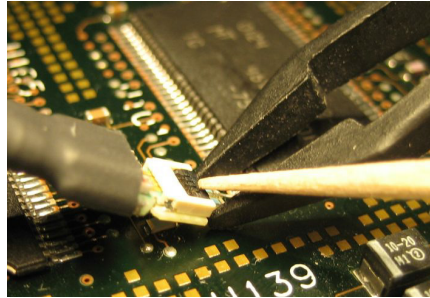

Figure 70 Use a Non-conductive Tool to Close the Latch
- 6 To make a measurement, connect a ZIF probe head to the ZIF tip. Open the tip's latch, insert the probe head into the ZIF socket, and close the tip's latch with a non-conductive tool. See Figure 70.